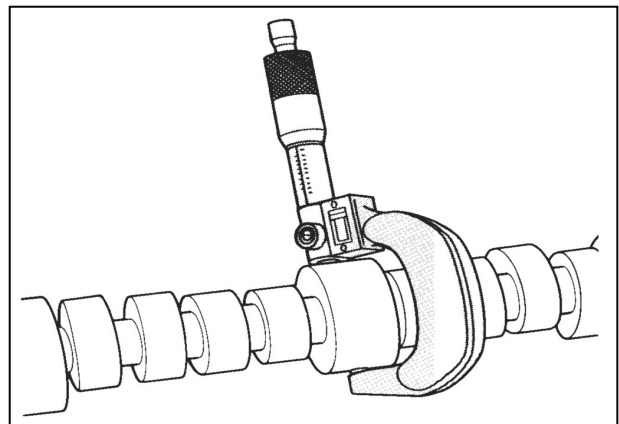

Figure 12-41 Measuring Camshaft Journals
Figures 12-41 and 12-42
- Camshaft journal diameters (figure 12-41). Refer to “Engine Specifications” for proper diameters.